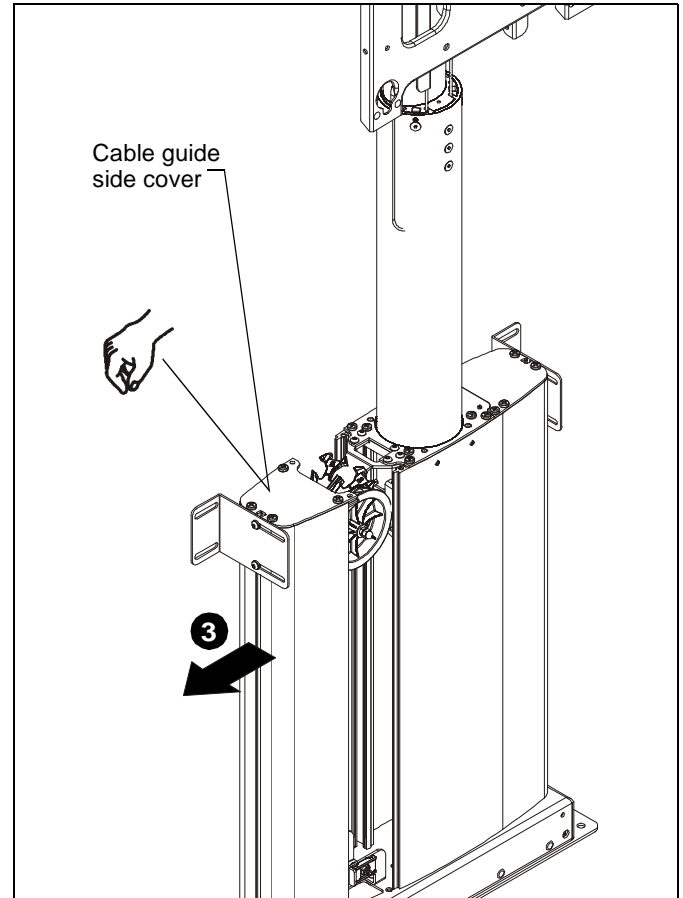

Figure 18
3. Slide cable guide side cover away from mount and carefully set aside. (See Figure 18)